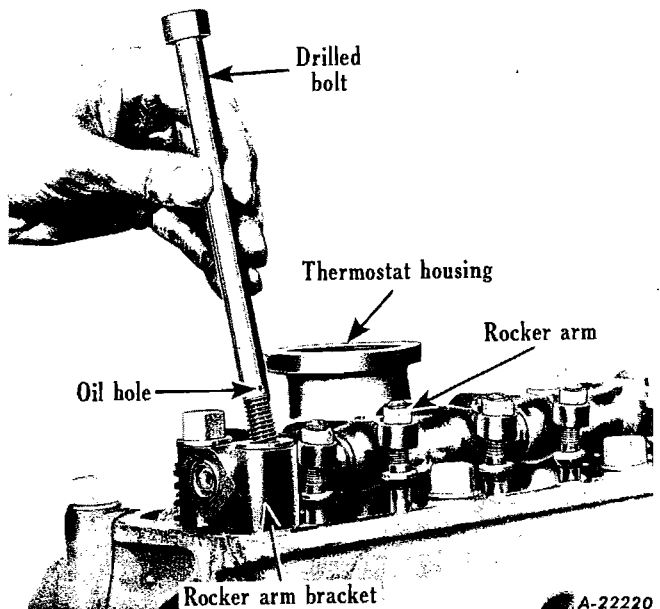

Fig. 5
2. Remove bolts from shaft brackets (Fig. 5.)